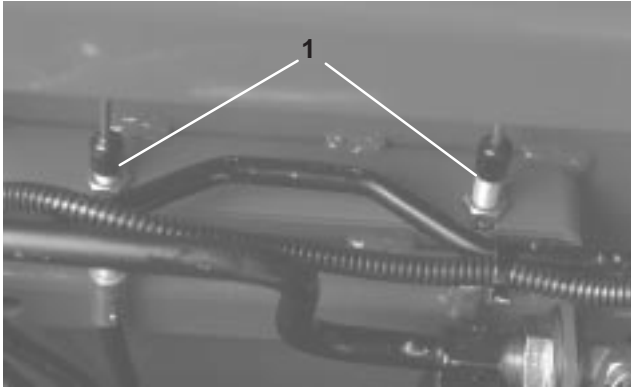

Figure 62
2. To reduce free travel of brake pedals, tighten the brakes by loosening the front nut on the threaded end of the brake cable (Fig. 62). Then tighten rear nut to move cable backward until brake pedals have 1/2 to 1 inch of free travel. Tighten front nuts after brakes are adjusted correctly.